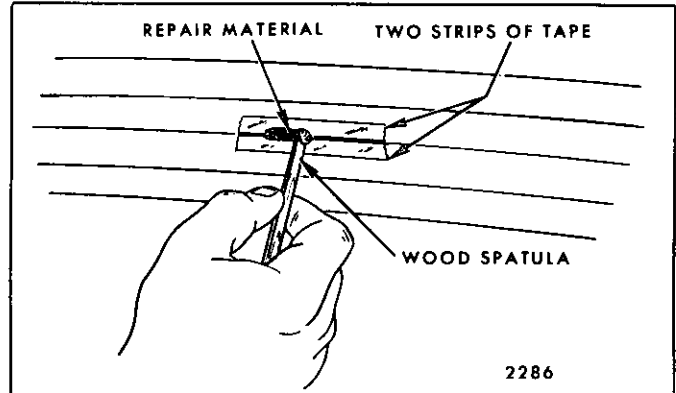

Fig. 10-3-Applying Repair Material to Broken Grid Line
**Install or Connect (Figures 10-3 and 10-4)**